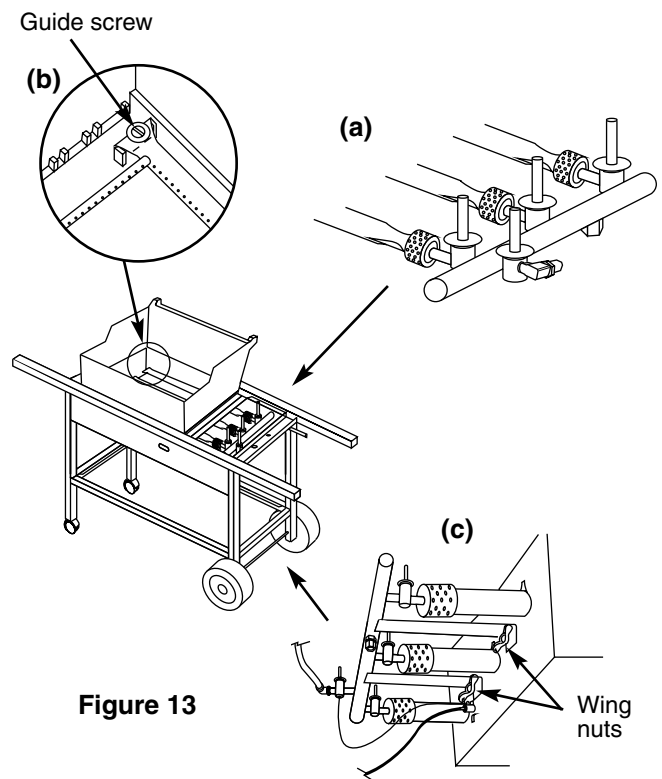

Figure 13
- Do the valves fit into the ends of the burners? Figure 13 (a).
- Are the ends of the burners under the washers at the left rear and left front of the cooking box? The screws are only guides. Do not tighten. Figure 13 (b).
- Are the wing nuts under the burner assembly hand tight? Do not tighten with pliers. Figure 13 (c).